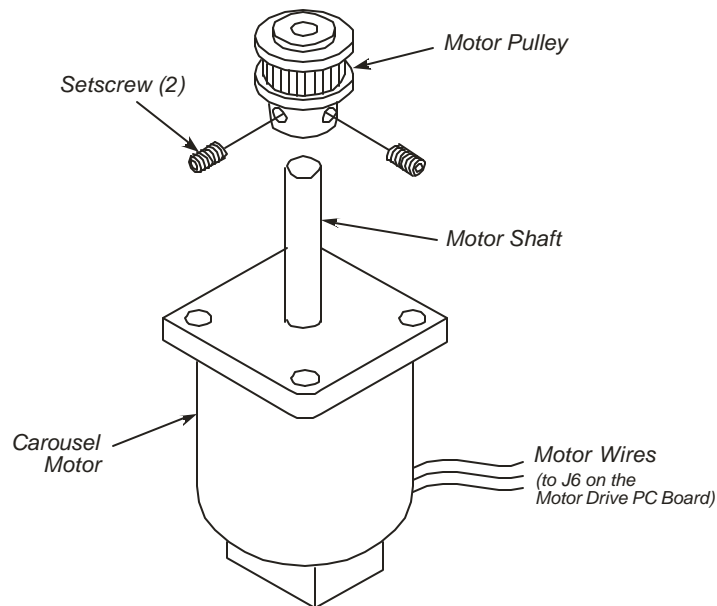

Figure 6-10 Remove the Motor Pulley from the Motor.
1. Loosen the two setscrews on the motor pulley and slide the pulley off the motor shaft (see Figure 6-10). Discard the motor.
8. Tighten the motor pulley setscrews (see the Figure 6-10).